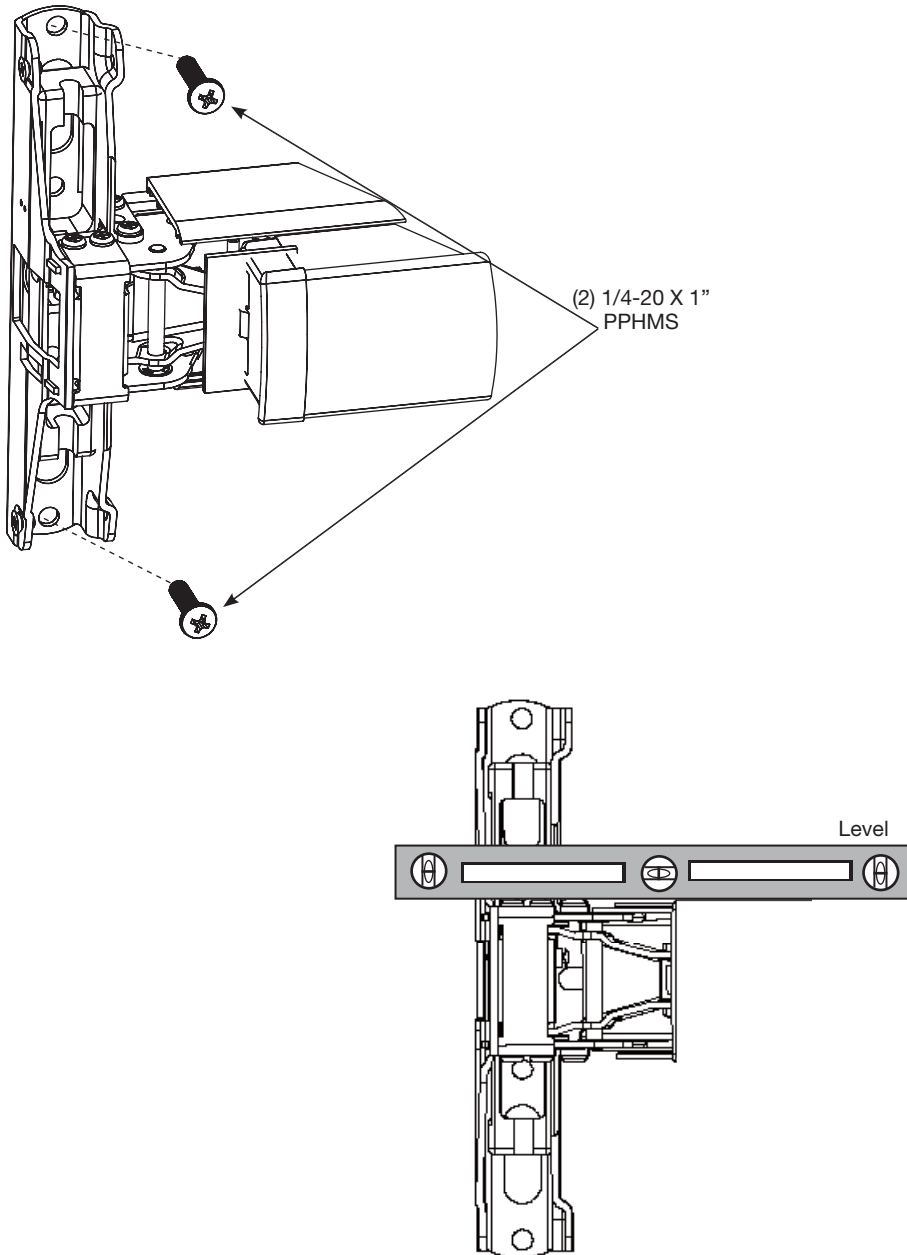

Figure 8: Attaching & Leveling Device Assembly
3. Loosely attach device assembly to door using two (2) 1/4-20 x 1" (25.4mm) PPHMS (see Figure 8, door not shown).
4. Level device and slightly tighten screws (see Figure 8).